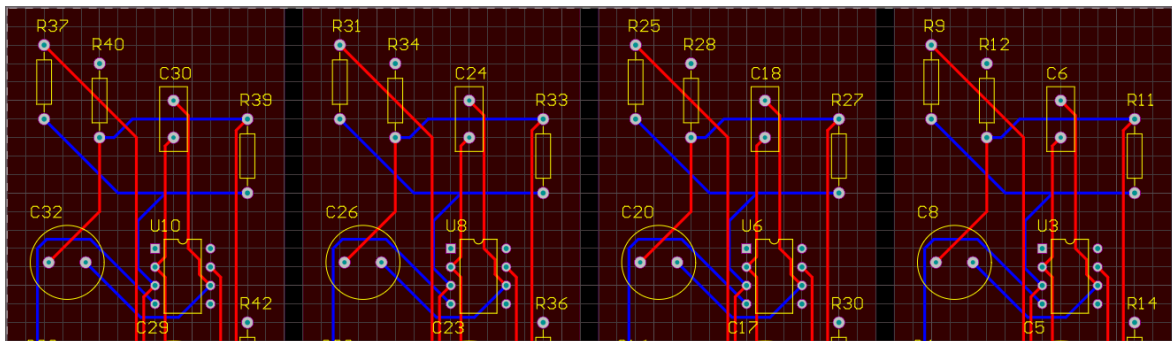

Figure 6. Rooms have unique designators after Board Level Annotate with Global Index
18. Return to the PCB and examine the newly updated designators, as shown in Figure 6